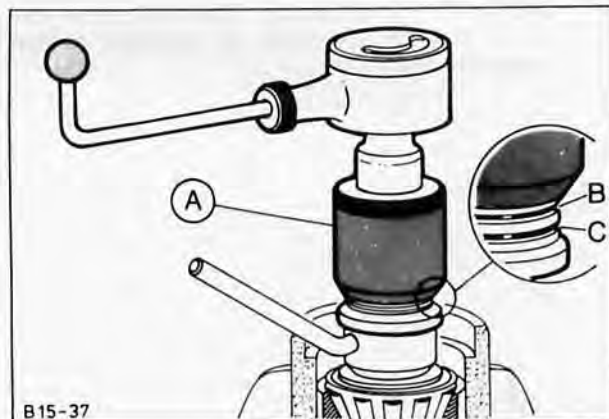

Fig. 109. Pre-load sleeve 15-023 and pre-load gauge 15-041
16. Measure torque now needed for rotation with pre-load gauge and note value, Fig. 109.